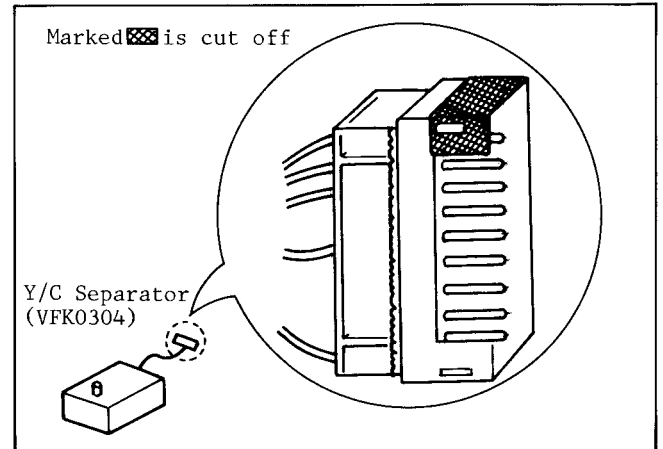

Fig. 6
*Cut off the marked portion of Y/C Separator output connector as shown in Fig. 6.
1. On the trap Connector, pull out on both ends of the Locking Tab surrounding the cable end to release the Trap on the Connector. Then pull Flexible Cable out to remove as shown in Fig. 6.